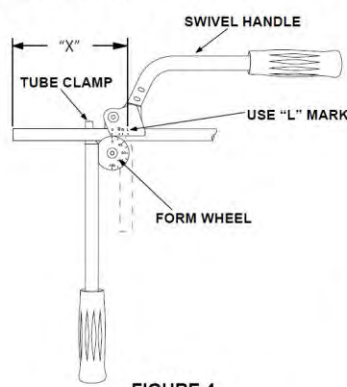

FIGURE 4
2. Position tube in bender as shown in Fig. 4. If the end from which you measured is left of the tube clamp, the measured mark should be directly over graduation "L" located on the right side of the swivel handle as shown in Fig. 4.